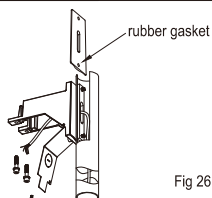

Fig 26
Step 3 : Attention: When install to round pole, Please remove the rubber gasket , as fig 26